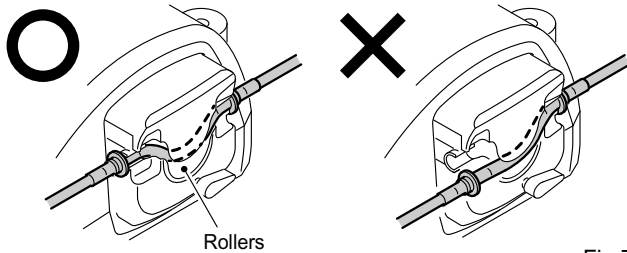

Fig.7
**Make sure that the tube is securely set on the rollers when closing the pump cover. If the tube is not correctly positioned on the rollers and the cover is closed, the tube could be cut or sheared. (Fig.7)**